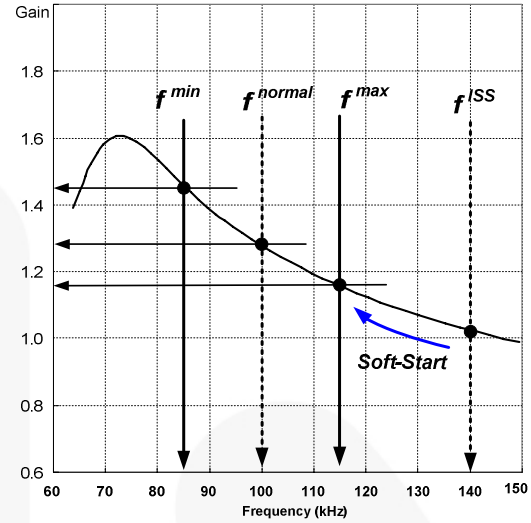
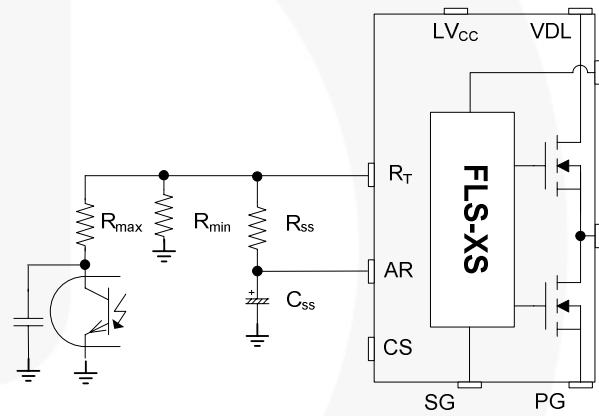
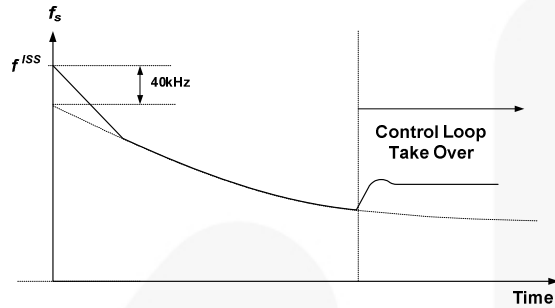

Figure 17. Resonant Converter Typical Gain Curve
Figure 18. Frequency Control Circuit
Figure 19. Frequency Sweeping of Soft-Start
**3. Frequency Setting:** Figure 17 shows the typical voltage gain curve of a resonant converter, where the gain is inversely proportional to the switching frequency in the ZVS region. The output voltage can be regulated by modulating the switching frequency. Figure 18 shows the typical circuit configuration for the  $R_T$  pin, where the opto-coupler transistor is connected to the  $R_T$  pin to modulate the switching frequency.
To prevent excessive inrush current and overshoot of output voltage during startup, increase the voltage gain of the resonant converter progressively. Since the voltage gain of the resonant converter is inversely proportional to the switching frequency, the soft-start is implemented by sweeping down the switching frequency from an initial high frequency ( $f^{ISS}$ ) until the output voltage is established. The soft-start circuit is made by connecting R-C series network on the  $R_T$  pin, as shown in Figure 18. FLS-XS series also has a 3ms internal soft-start to reduce the current overshoot during the initial cycles, which adds 40kHz to the initial frequency of the external soft-start circuit, as shown in Figure 19. The initial frequency of the soft-start is given as: